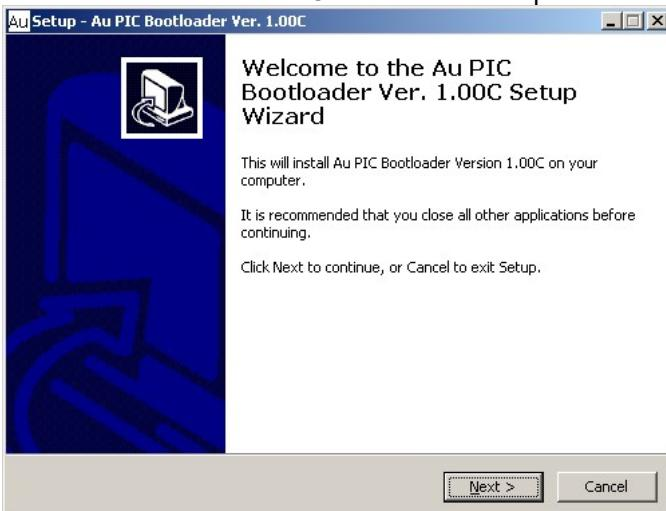

Figure C-2
2. "Welcome to the Au PIC Bootloader Setup Wizard" window will show up, click "Next" (Figure C- 2)